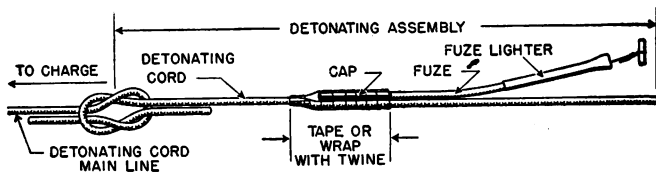
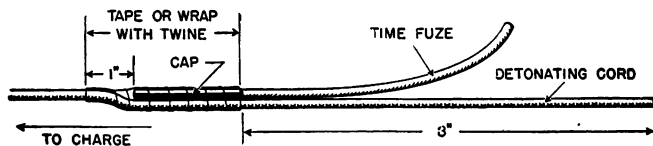

FIGURE 95.—Detonating assembly.
FIGURE 96.—Attaching cap to detonating cord.
made by binding a nonelectric cap to a piece of detonating cord (as shown in fig. 96), allowing sufficient length of detonating cord to tie a square-knot splice to the charge. Time fuze is crimped to the cap, and a fuze lighter is crimped to the other end of the fuze. (See fig. 95.)
■ **52. NONELECTRIC CONNECTIONS.**—*a. To attach cap (electric or nonelectric) to detonating cord.*—Lay the cap and time fuze alongside the detonating cord, with the cap pointing in the direction of the charge. Bind the cap and detonating cord securely together, using either friction tape or twine, as shown in figure 96.